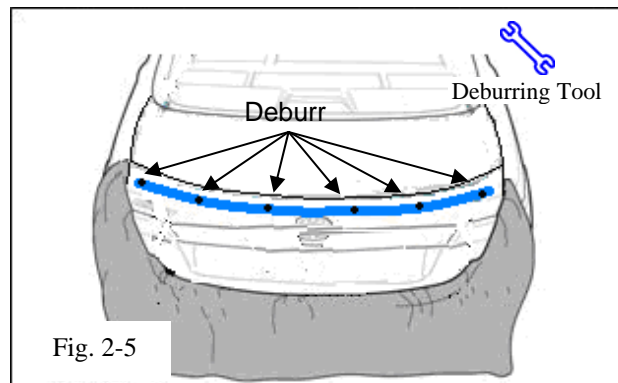

Fig. 2-5
(j) Using a deburring tool; carefully deburr the six (6) drilled holes (Fig. 2-5).